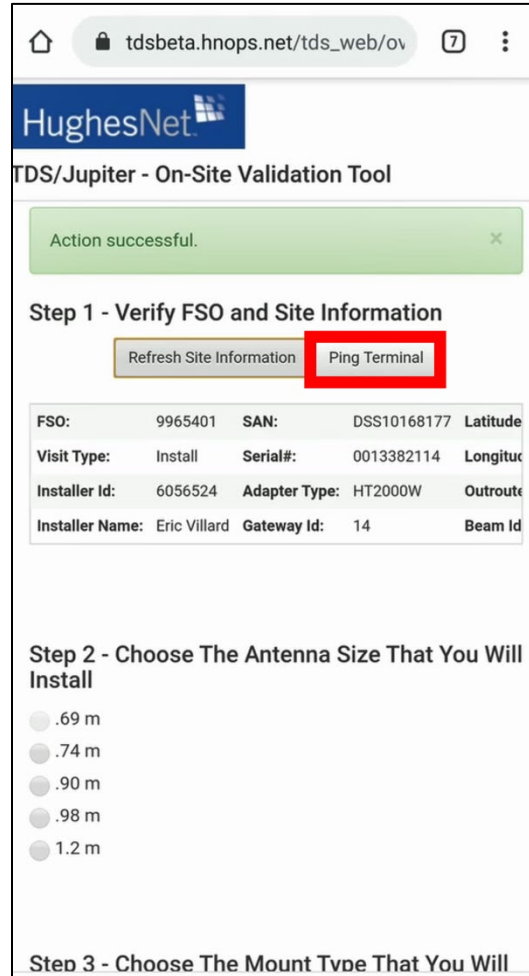

Figure 75: OVT refresh successful
You will receive confirmation that the refresh was successful (see Figure 75).
4. Tap **Ping Terminal** (outlined in Figure 75).